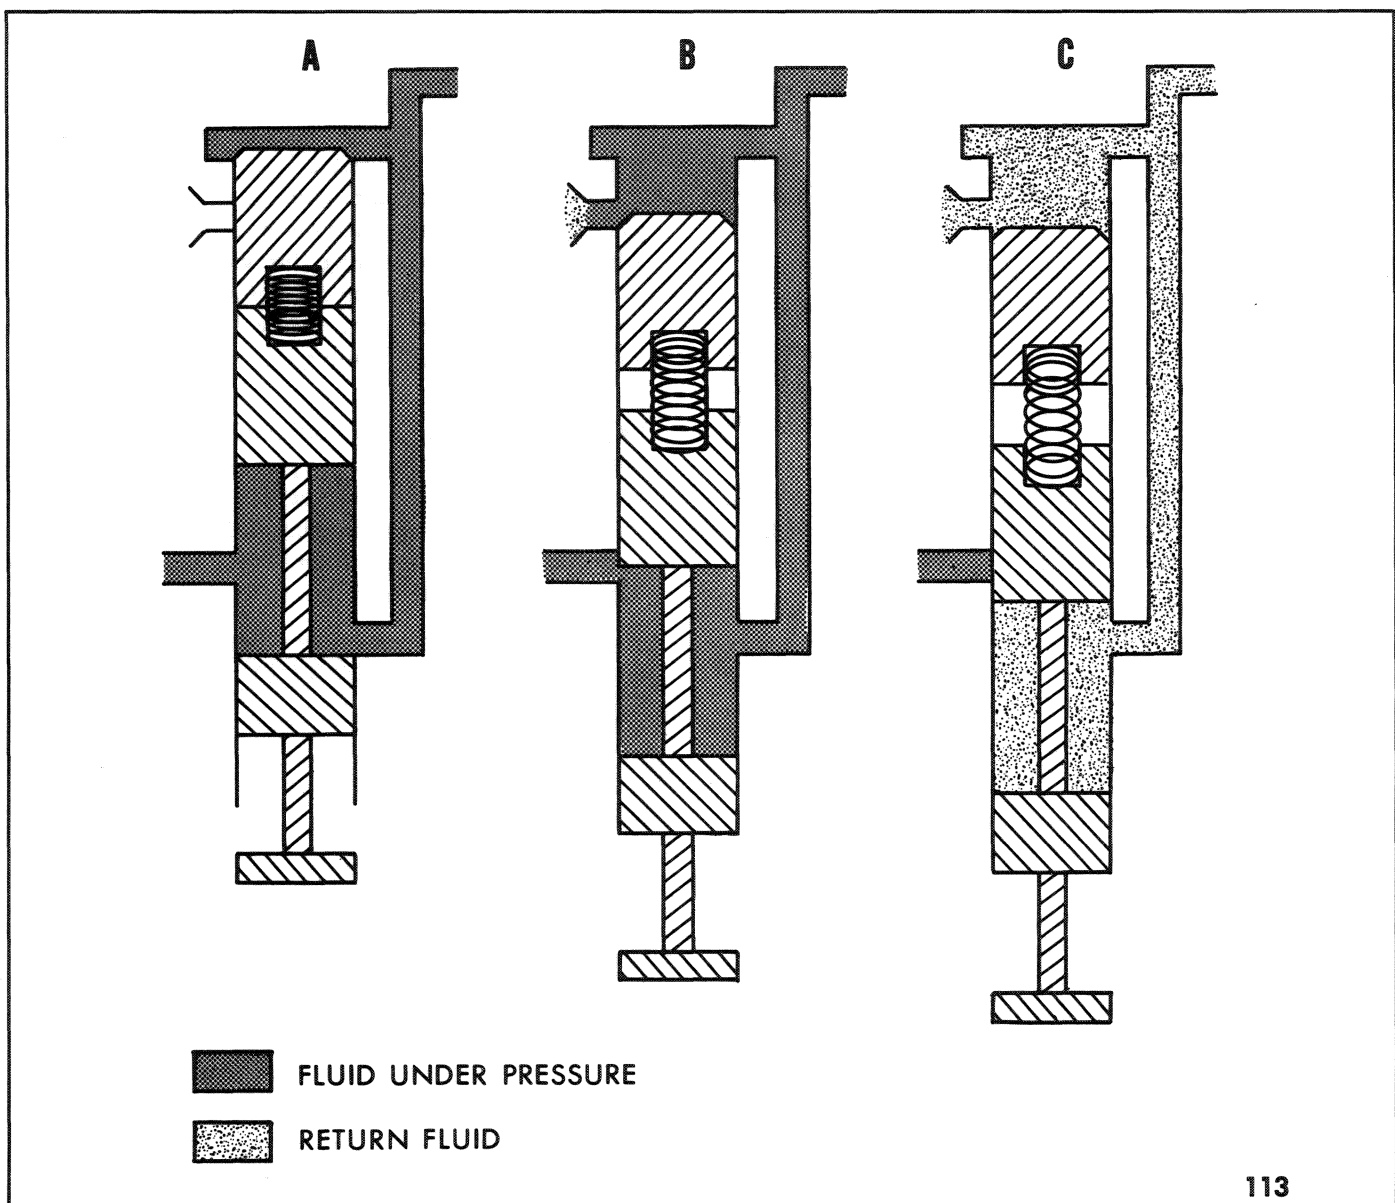

Figure 58—Feathering Valve Operation
The feathering valve is located in the indirect circuit ahead of the spool valves which control the transmission clutches and servo 1. During normal operation, the feathering valve is closed against fluid flow to the sump, as shown at (A), Figure 58. When the foot pedal is completely depressed, fluid pressure is released at all elements in the indirect circuit and no engine power will be transmitted to the rear wheels. This position of the feathering valve is shown at (C), Figure 58. When the foot pedal is raised slowly from the depressed position, fluid pressure will gradually increase and the elements in the indirect circuit will slowly engage. This is the "feathering" position of the valve, and is shown at (B), Figure 58.
P.T.O. Feathering Valve: On Model 71 and 81 transmissions, the action of the P.T.O. feathering valve is controlled by a "T" handle and rod assembly mounted in the right side of the tractor hood. The control handle and P.T.O. feathering valve, located in the control valve lower body, affect the fluid pressure in the P.T.O. circuit only. When the handle is pulled out slowly, the feathering valve will move further into the control valve body. As the valve moves into the body, it opens a pressure port allowing fluid into the passage to the P.T.O. clutch. This fluid will at first be free to pass to sump. This position of the valve is shown at (B), Figure 58. As the valve continues to travel inward, the passage to sump will gradually be closed and increasing fluid pressure will be exerted on the P.T.O. clutch piston, causing the clutch to be gradually engaged. This position of the valve is shown at (A), Figure 58. This will facilitate the gradual starting of P.T.O. operated equipment. When the feather-valve is in the extreme "OUT" position, with the control handle forward, the fluid pressure is entirely excluded from the P.T.O. circuit and the fluid in the P.T.O. clutch will be forced to return to sump by action of the P.T.O. piston return spring. The clutch will then be disengaged. This position of the valve is shown at (C), Figure 58.